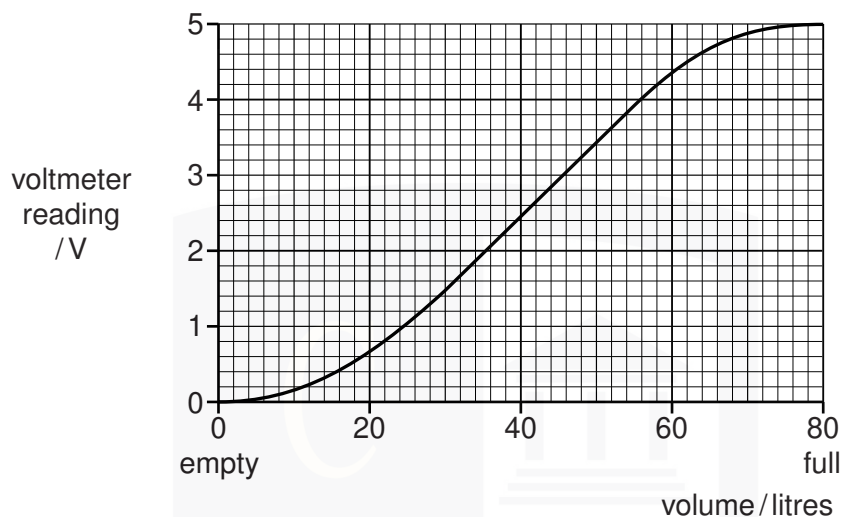

Fig. 9.1
- 4 The volume of fuel in the fuel tank of a car is monitored using a sensing device. The device gives a voltage output that is measured using a voltmeter. The variation of voltmeter reading with the volume of fuel in the tank is shown in Fig. 9.1.
- (a) Use Fig. 9.1 to determine the range of volume over which the volume has a linear relationship to the voltmeter reading.
- (b) Suggest why, comparing values from Fig. 9.1,